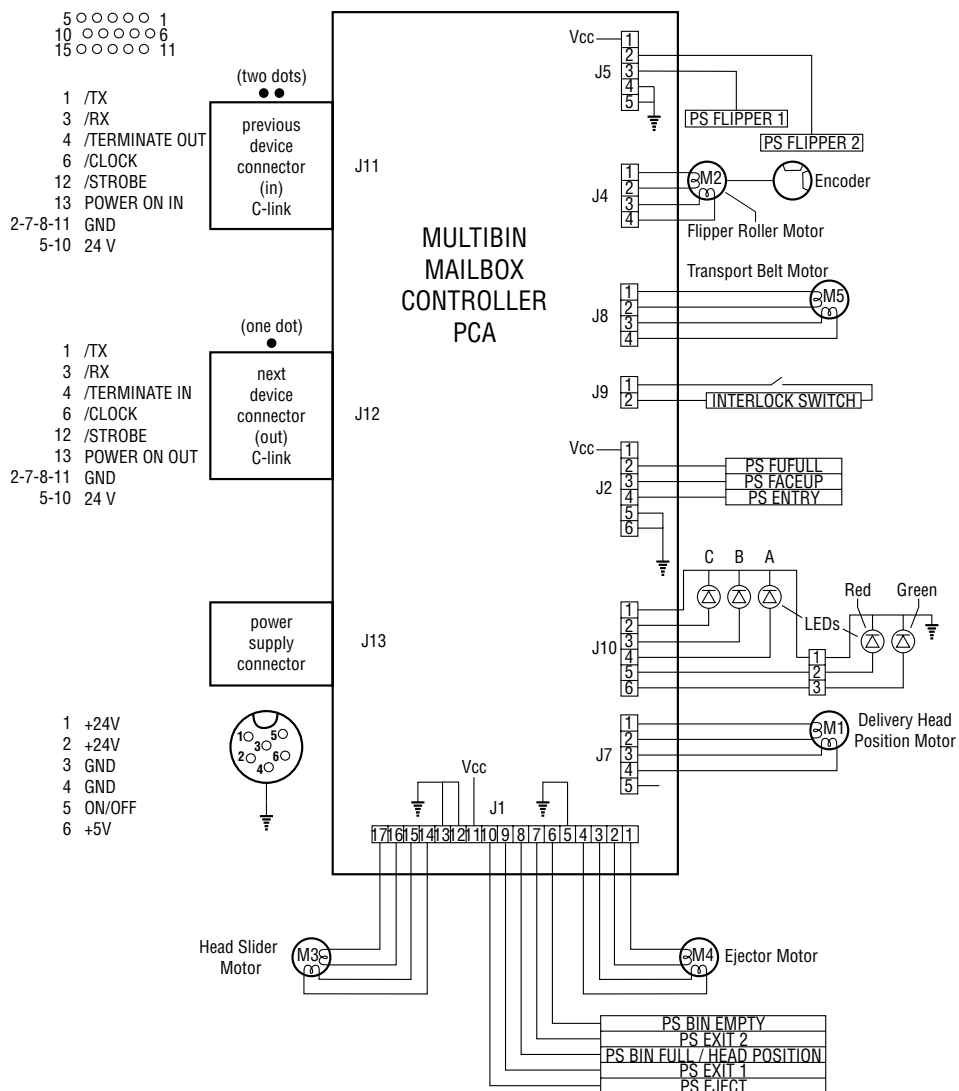

Figure 7-36 8-bin Mailbox Main Wiring Diagram
- Figure 7-36, “8-bin Mailbox Main Wiring Diagram,” on page 714
- ① : FACE-DOWN TRAY DELIVERY SENSE signal (/FDOUTS)
- ② : FACE-DOWN TRAY PAPER FULL SENSE signal (/FDDULS)
- ③ : FUSING UNIT DELIVERY SENSE signal (FPOUTS)
- ④ : TRAY 2 PAPER SIZE SENSE signal
- ⑤ : TRAY 3 PAPER SIZE SENSE signal
- ⑥ : TRAY 3 PAPER-LEVEL SENSE signal 1 (LVPS1)
- ⑦ : TRAY 3 PAPER-LEVEL SENSE signal 2 (LVPS2)
- ⑧ : TRAY 3 SENSE signal (/LDECKC)
- ⑨ : TRAY 3 PAPER-OUT SENSE signal (/LDECKS)